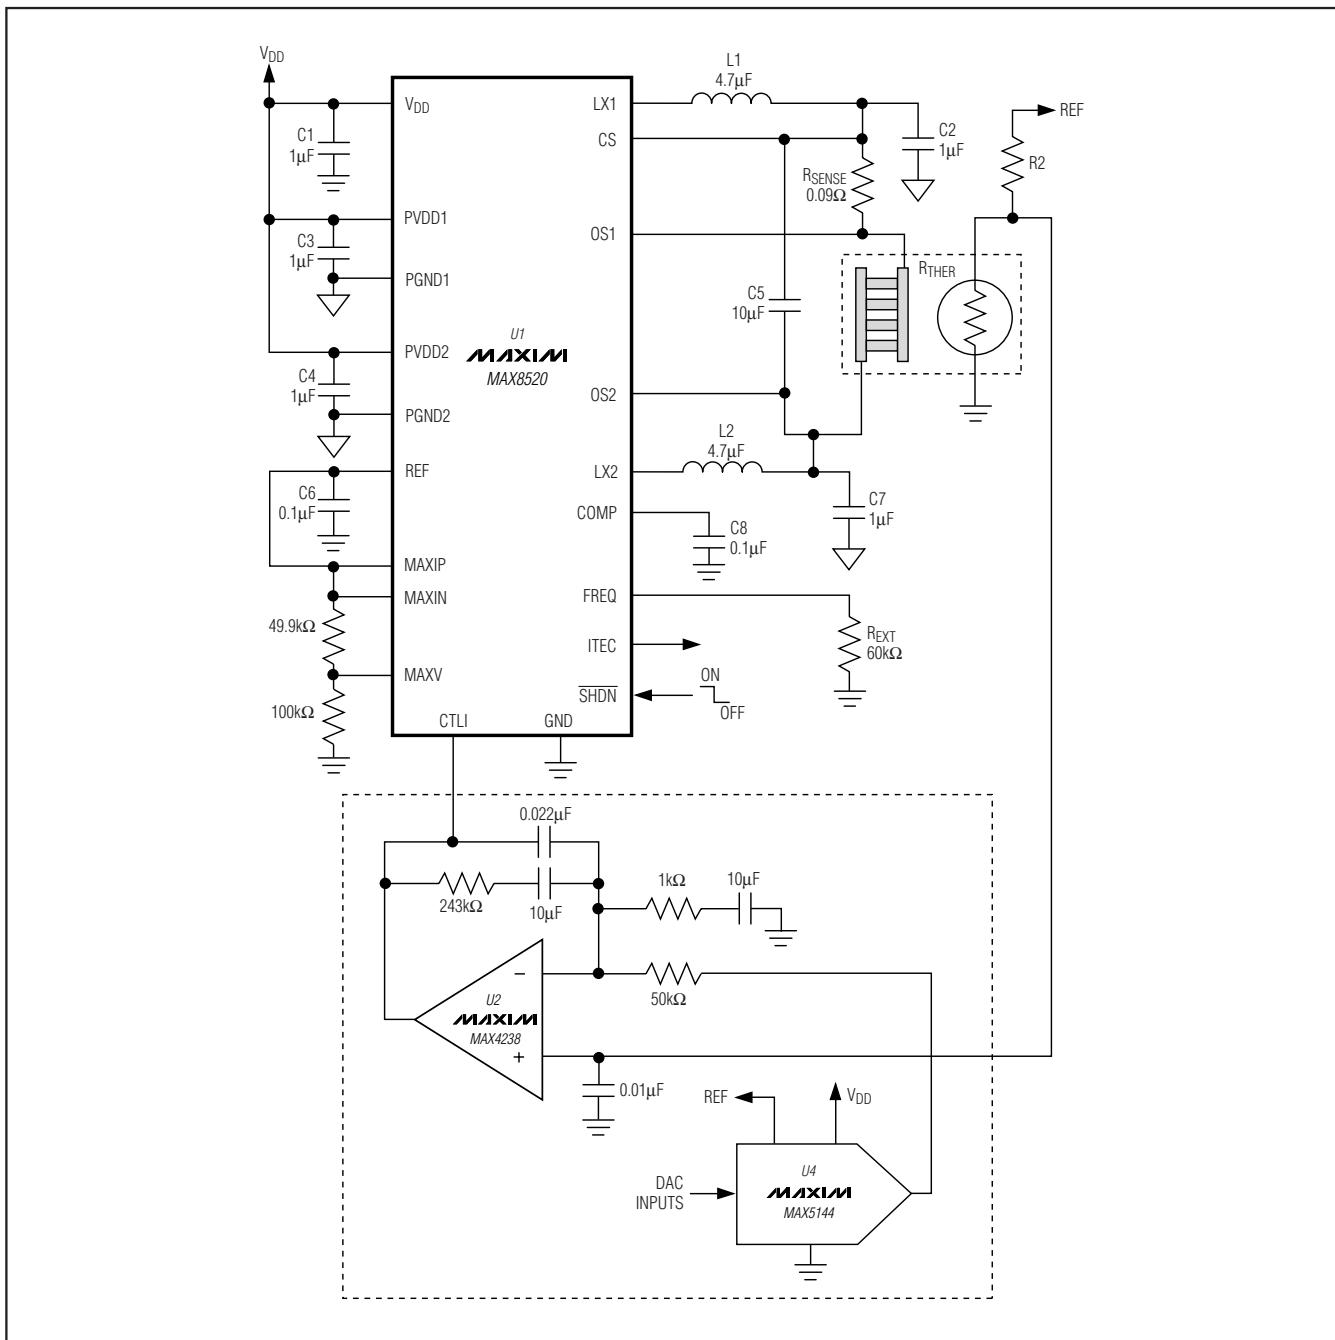

Figure 2. Typical Application Circuit for the MAX8520 with Reduced Op-Amp Count Configuration
For the MAX8520, connect a resistor ( $R_{EXT}$  in Figure 2) from FREQ to GND. Choose  $R_{EXT} = 60\text{k}\Omega$  for 1MHz operation, and  $R_{EXT} = 150\text{k}\Omega$  for 500kHz operation. For any intermediary frequency between 500kHz and 1MHz, use the following equation to find the value of  $R_{EXT}$  value needed for  $VDD = 5\text{V}$ :
**Table 2. TEC Connection for Figure 2**